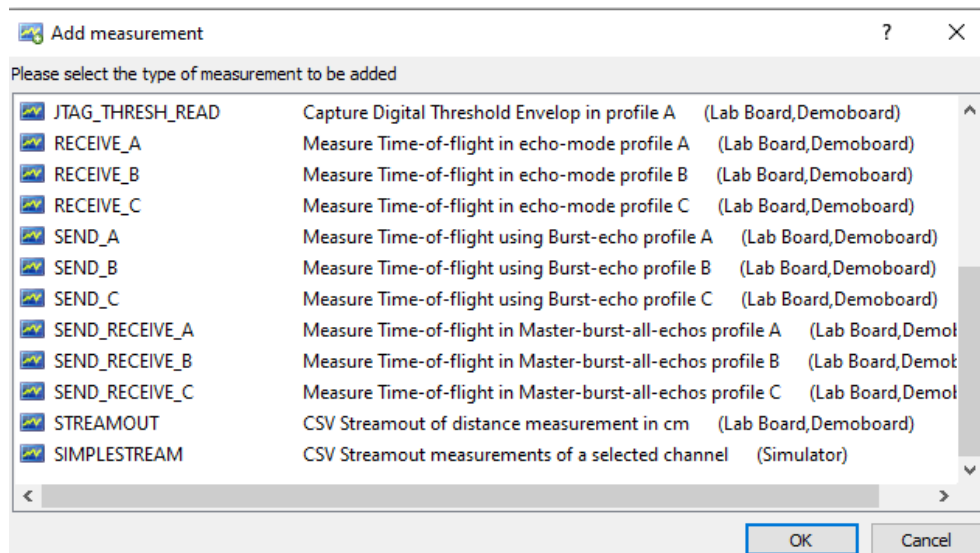

Figure 14: Measurement options
1. Click on add measurement icon which pops up a window (Figure 14) with different measurement options.